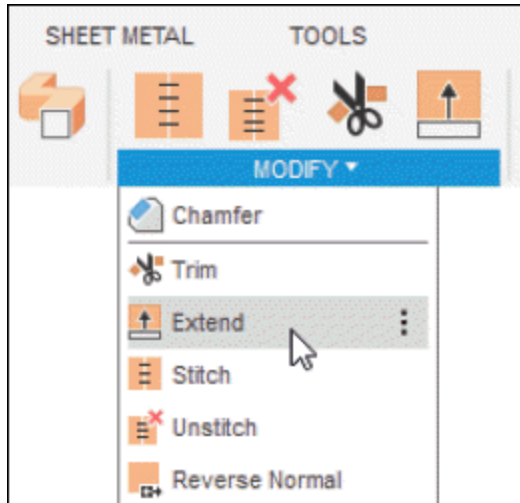
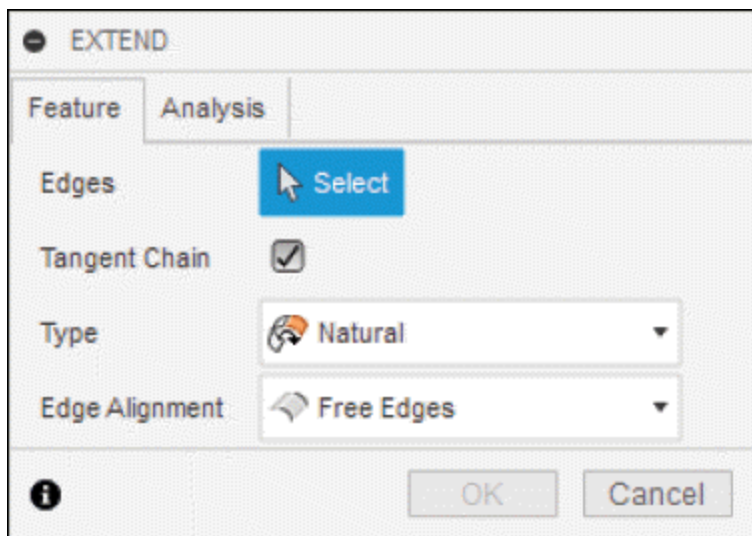

Figure-23. Extend tool
Figure-24. EXTEND dialog box
- Click on the **Extend** tool of **MODIFY** drop-down from **Toolbar**; refer to Figure-23. The **EXTEND** dialog box will be displayed; refer to Figure-24.